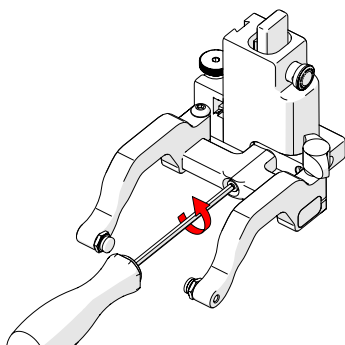

Fig. 117 - Remove yoke
1. Using the supplied 3 mm driver, unscrew the yoke (Fig. 117).
1. Remove the yoke using the supplied 3 mm hex driver (Fig. 117).